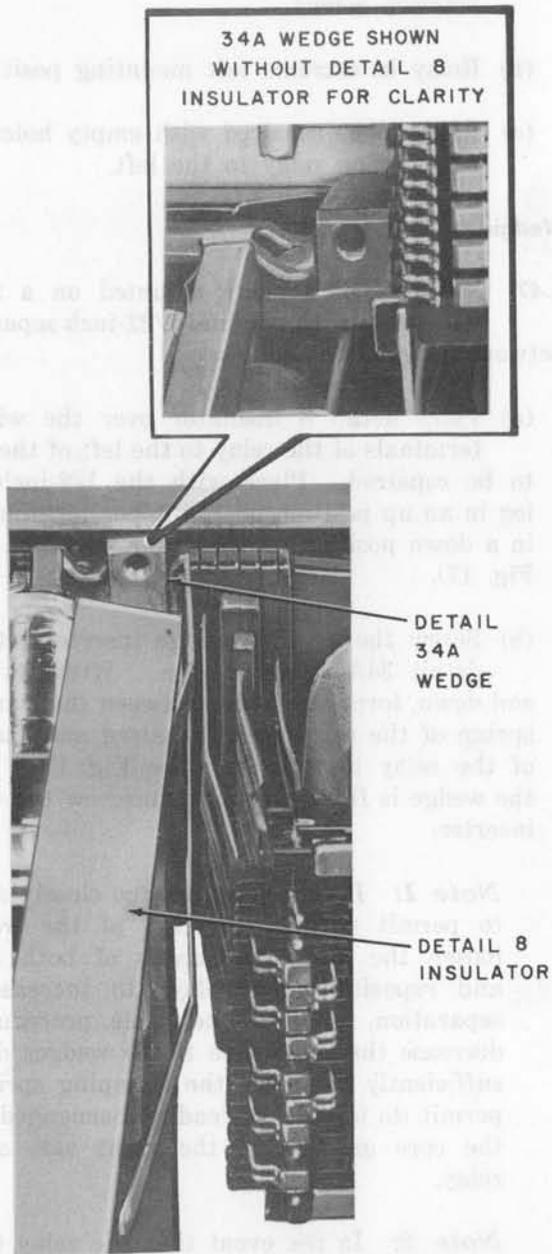

Fig. 17—Details 34A and 34B Wedges in Place With Detail 8 Insulators (34B Not Shown)
- (a) Place detail 8 insulator over the winding terminals of the relay to the left of the relay to be repaired. Place with the 1/8-inch long leg in an up position on the upper terminal and in a down position on the lower terminal. (See Fig. 17).
- (b) Screw the detail 5 wedge inserter into the detail 34A upper wedge. With its wide end down, force the wedge between the clamping spring of the relay being repaired and the core of the relay to its left. (See Fig. 17). After the wedge is firmly in place, unscrew the wedge inserter.
- (c) Screw the wedge inserter into the detail 34B lower wedge and, with the wide end up, insert the wedge using the procedure followed in inserting the upper wedge. (See Fig. 17).